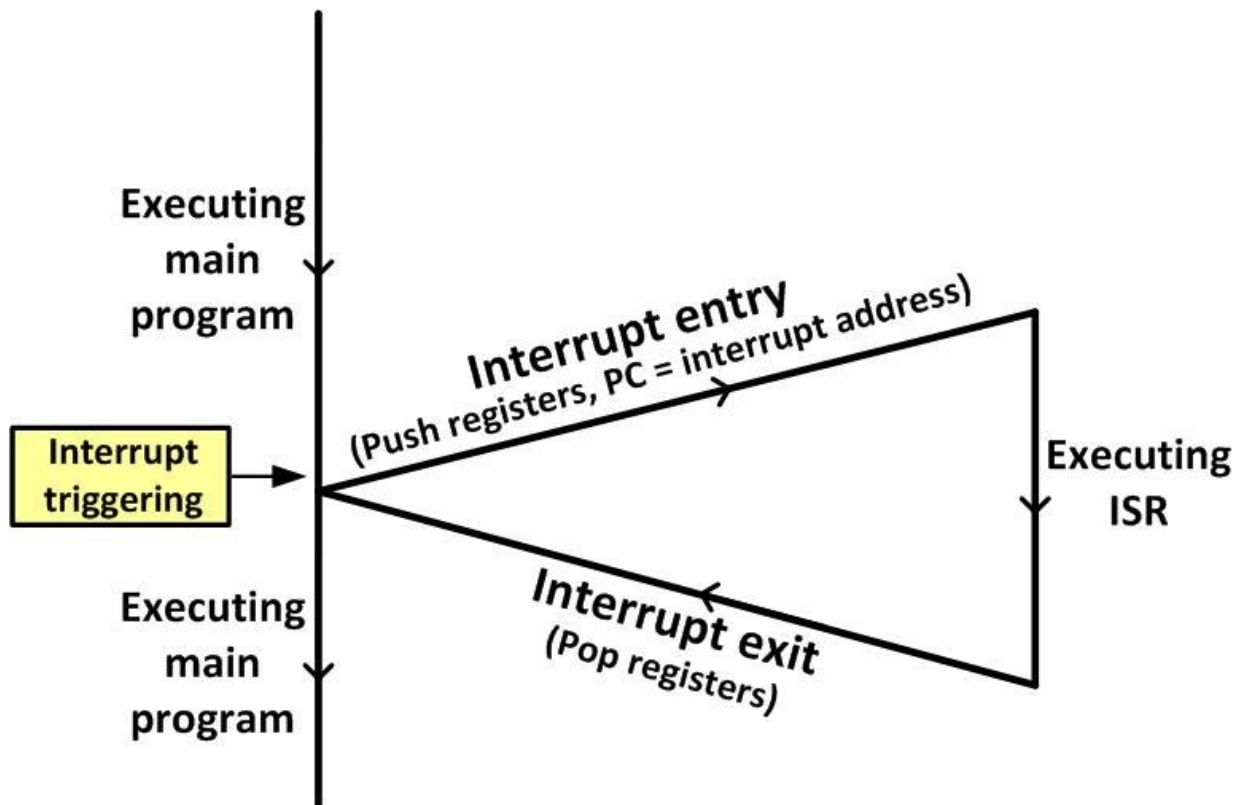

Figure 6-5: Main Program gets interrupted
12. When one of the return instructions is executed in the interrupt service routine, the CPU recognizes that it is in the Handler Mode from the value of the LR (LR is loaded with a number with bits 31-5 all 1s when entering ISR). It then restores the registers saved when entering ISR including the program counter from the stack and makes the CPU run the code where it left off when the interrupt occurred. See Figure 6-5.